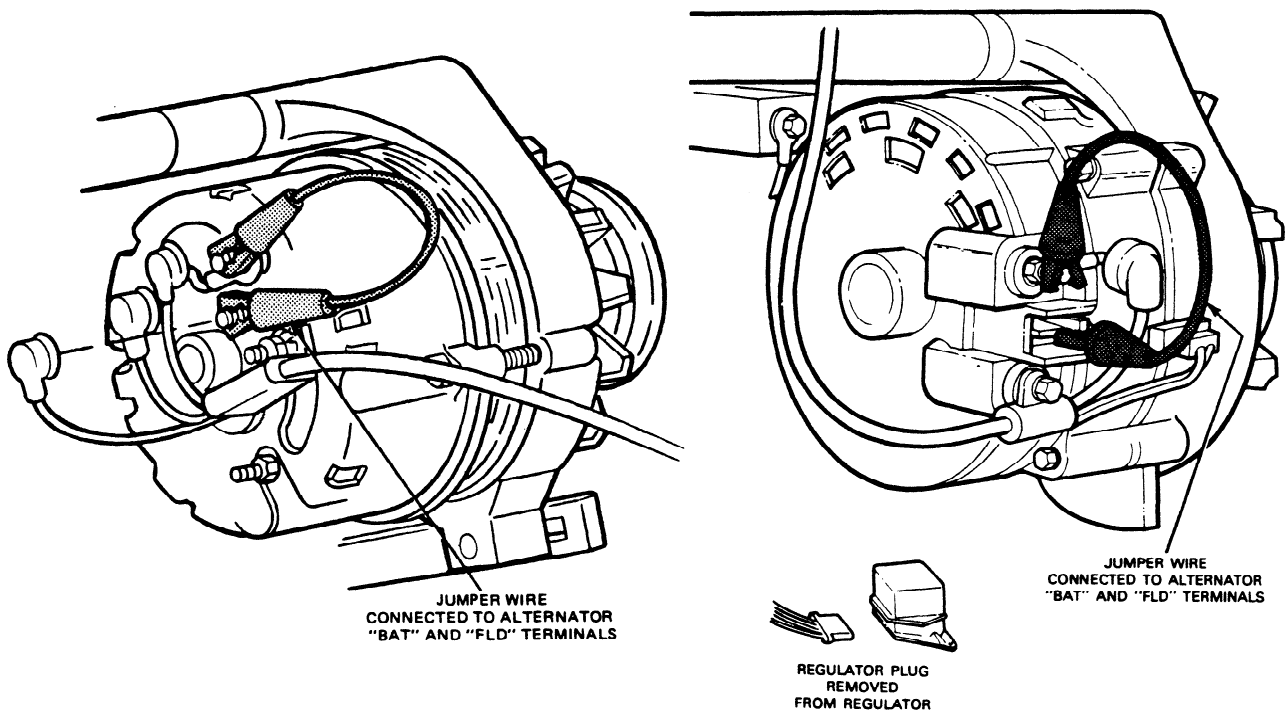

FIG. 13 Jumper Wire Connections
3. If the Voltmeter Test Procedure still indicates a problem (under voltage), remove the jumper wire from the regulator plug and leave the plug disconnected from the regulator. Then, connect a jumper wire to the FLD and BAT terminals on the alternator (Fig. 13).